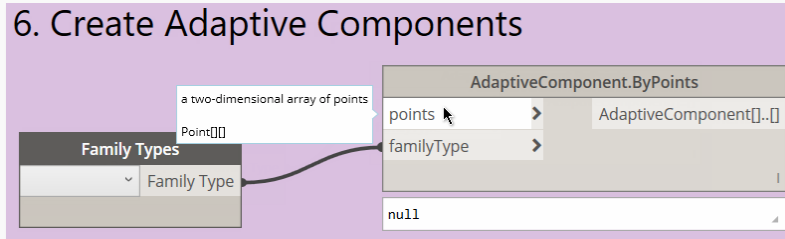

Figure 68
8. Select both nodes and group them. Name the group: **6. Create Adaptive Components** (see Figure 68).